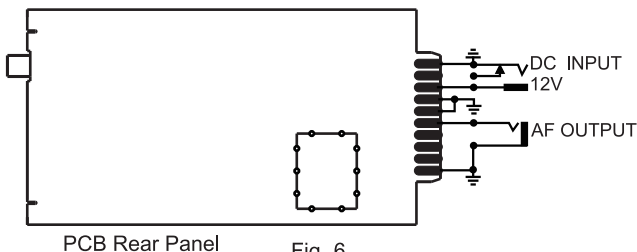

Fig. 6
V. Receiver Module Wiring Diagram, Fig. 6